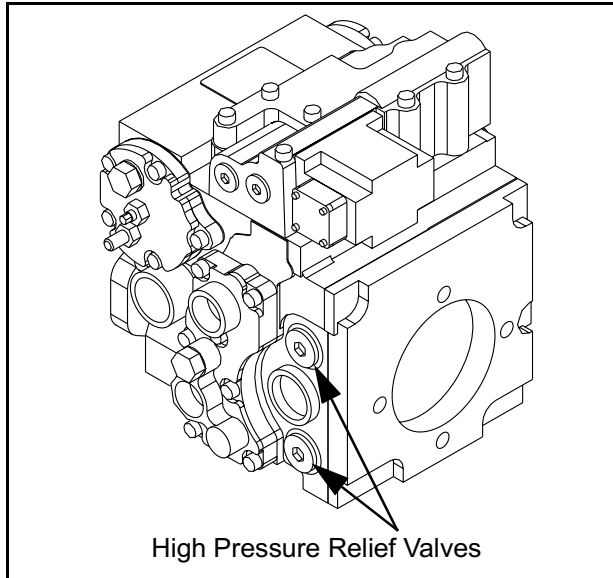

Figure 5 - 14 High Pressure Relief Valves
- 5) The pressure gauges should read 0 psi. Move the Feed Conveyor Override switch on the operator console to the OVERRIDE position. The pressure readings on one of the pressure gauges should rise and remain steady when it reaches the pressure limiter setting. If the pressure is significantly higher or lower than 3330 psi, the pressure relief valve is defective and must be replaced. (Figure 5 - 14)